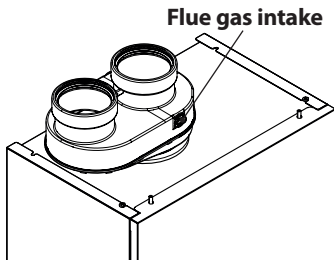

Figure 6.4
**Fill the condensate discharge siphon with a half litre of water to prevent smoke from exiting at first ignition. The flue gas intake positioned on the flue gas outlet can be used for this operation (Figure 6.4).**